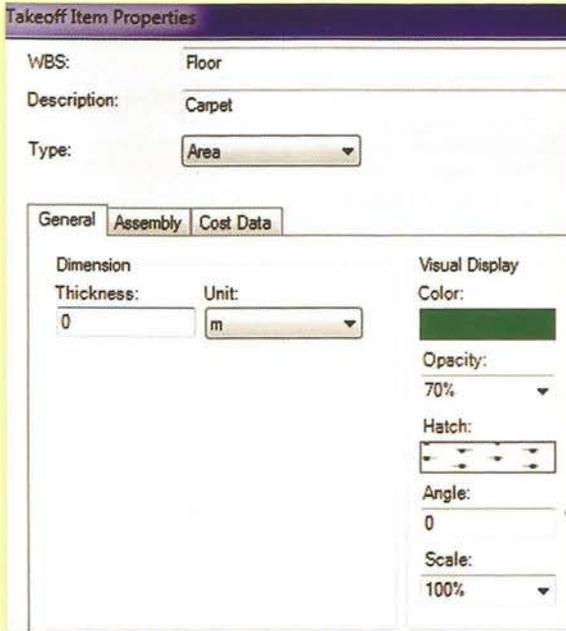

Fig 39: Takeoff Item Properties
- Double-click the new item. In the Takeoff Item Properties dialog, select a color shade, hatch pattern, angle and scale (Figure 39).